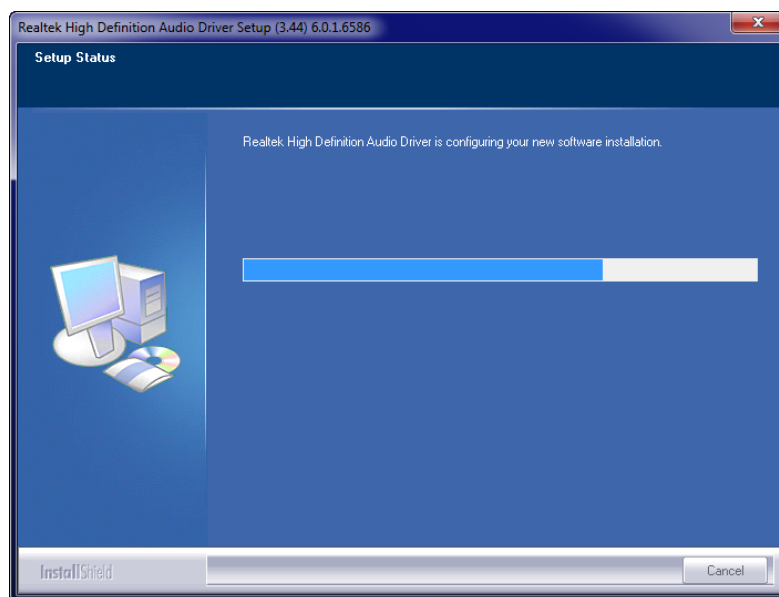

Figure 8-16: Audio Driver Installation
Step 6: The audio driver installation begins. See **Figure 8-16**.